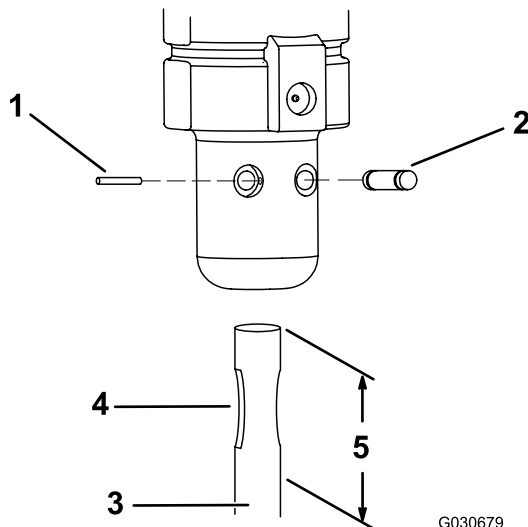

Figure 2
4. Using a hammer and punch, remove the 2 elastic pins out of the breaker housing to gain access to the retaining pins (Figure 2).
8. Hold the bit in place and insert the 2 bit-retaining pins into the breaker housing (Figure 2).
9. Drive the pins into place with a hammer (Figure 2).
10. Insert the 2 elastic pins into the breaker housing and drive them into place over the retaining pins with a hammer (Figure 2)
5. Using a hammer and punch, remove the 2 bit-retaining pins from the breaker housing (Figure 2).
6. Apply grease completely over the top 15 cm (6 inches) of the bit (Figure 2)
7. Slide the bit into the breaker with the 2 notches in the bit in line with the retaining-pin holes (Figure 2).